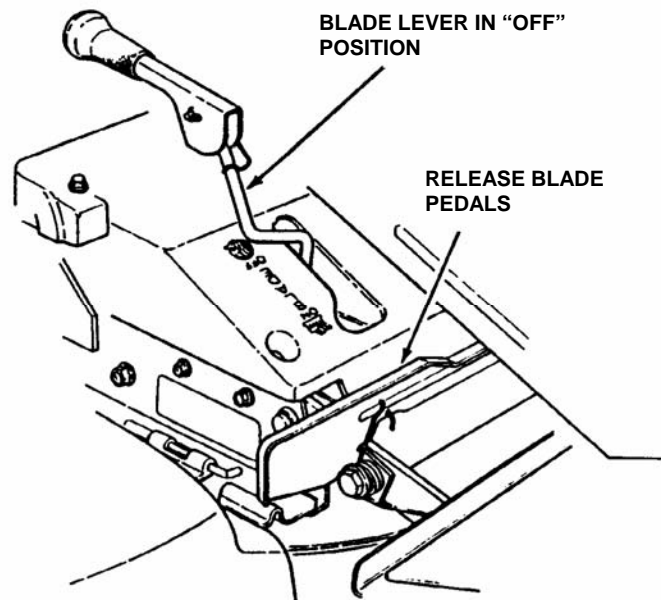

FIGURE 2.15
1. Stop mower blade by releasing blade pedals or moving blade lever rearward to the "OFF" position. See Figure 2.15.